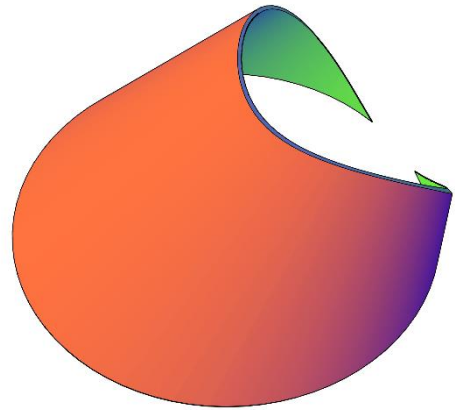
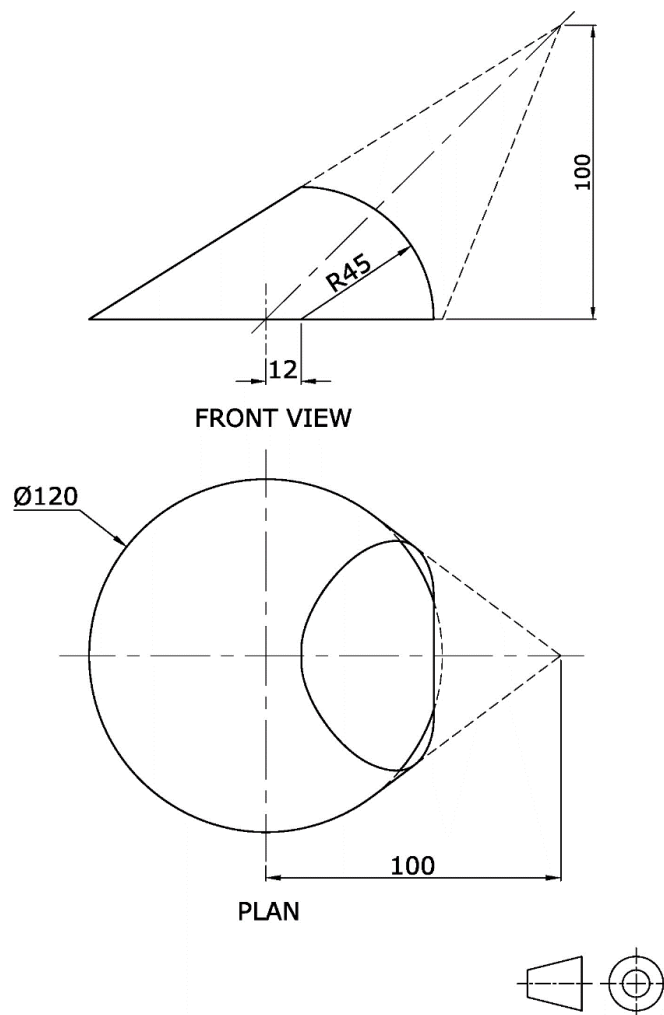

Figure 4a
Figure 4b
An illustration of a cut oblique cone is shown in Figure 4a. The oblique cone sectioned by a curved plane is shown in the orthographic views presented in Figure 4b. The oblique cone is manufactured from sheet metal.
- a) Copy, full size, the two given views in Figure 4b showing the necessary construction for the cut in the plan. (4)
- b) Show clearly the method used to find the required true lengths, to construct the pattern of the resulting lower part of the oblique cone. (4)
- c) Construct half the surface development of the frustum of the oblique cone using the triangulation method. (5)